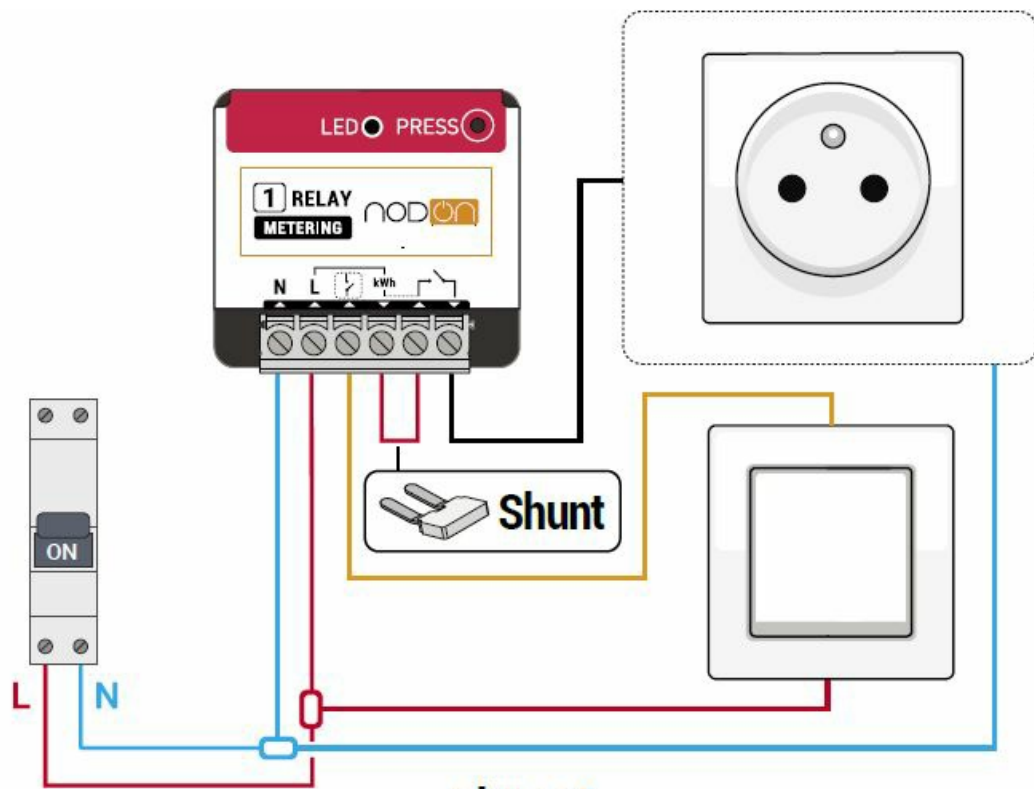

Figure 2
3. Wire the Zigbee Multifunction Relay Switch with metering following the diagram in Figure 2, making sure to connect the two wires that control the ambient thermostat (see your boiler user guide).